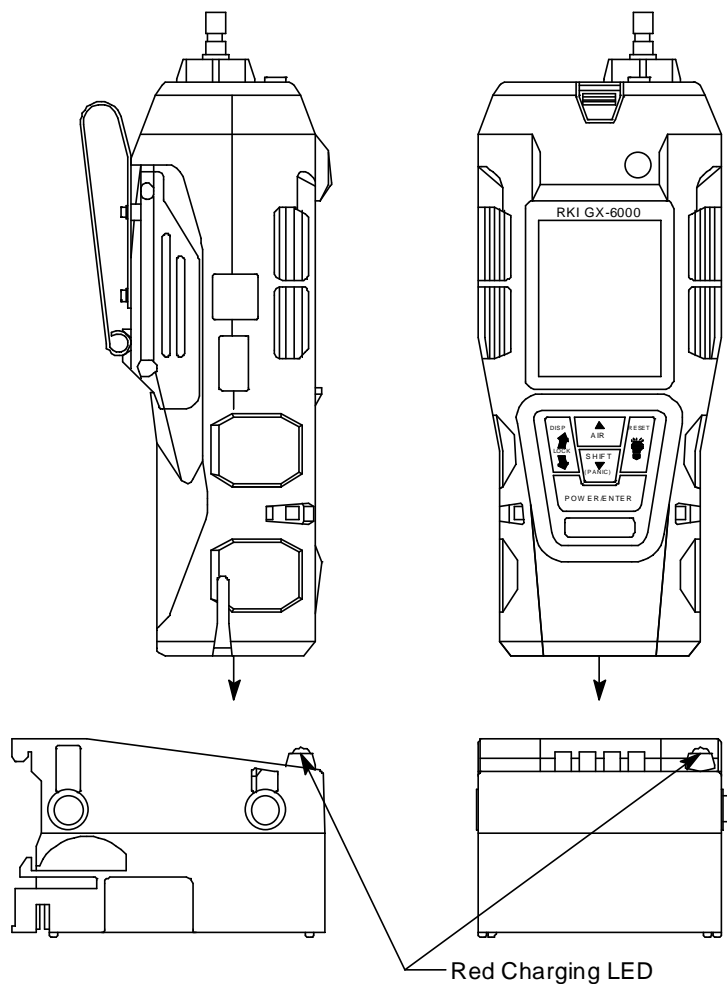

Figure 11: Putting the GX-6000 into the Charging Station
- 4 . Place the GX-6000 into the battery charging station as shown in Figure 11 below so that the metal contacts on the back of the unit come into contact with the metal contacts on the back of the holder in the charging station. When proper contact has been made, the red LED on the charging station will turn on.